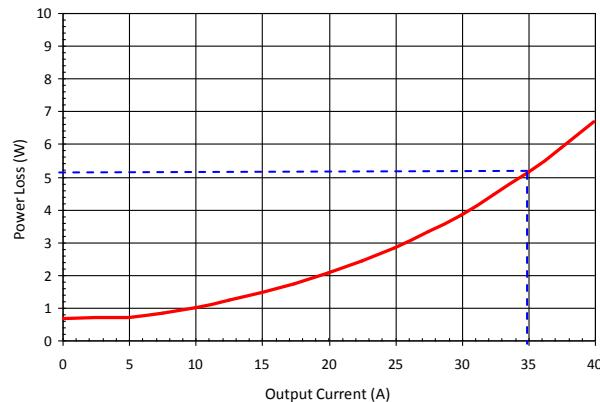

Figure 9: Typical IR3558 Power Loss
The measured single-phase IR3558 power loss under the same conditions is provided in Figure 9.
If any of the application condition, i.e. input voltage, output voltage, switching frequency, PVCC (HVCC/LVCC) MOSFET driver voltage or inductance, is different from those of Figure 9, a set of normalized power loss curves should be used. Obtain the normalizing factors from Figures 11-15 for the new application conditions; multiply these factors by the power loss obtained from Figure 9 for the required load current.
- 1) Determine the power loss at 35A under the default test conditions of  $V_{IN}=12V$ ,  $V_{OUT}=1.2V$ ,  $f_{sw} = 400kHz$ ,  $L=150nH$ , PVCC (HVCC/LVCC) = 7V,  $T_{AMBIENT} = 25^{\circ}C$ , no heat sink, and no air flow. It is 5.2W from Figure 9.